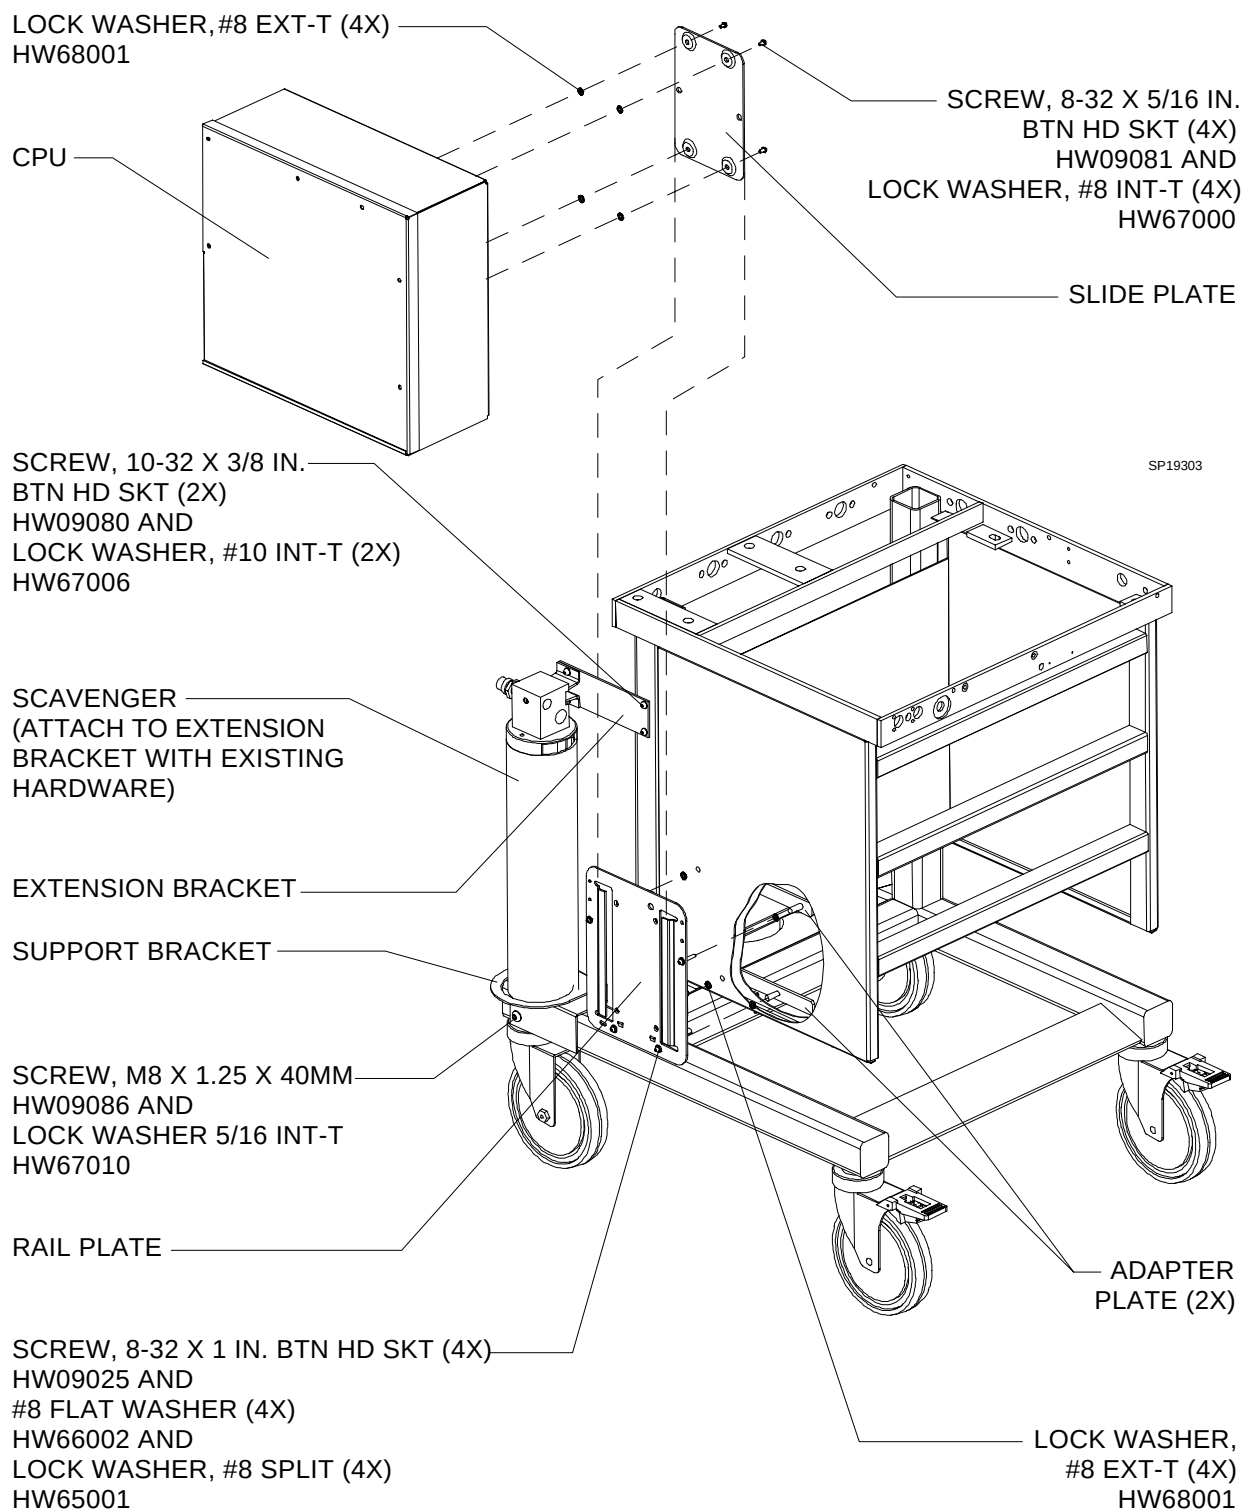

FIGURE 3. CPU, Scavenger Bracket and Rail Plate Installation
7. Install the slide plate on the CPU with the hardware arrangement shown in Figure 3.
8. Remove the scavenger from the machine and re-locate it using the extension bracket and support bracket as shown in Figure 3. Re-use the existing hardware to attach the scavenger to the extension bracket.
11. Assemble the rail plate to the cabinet, with the plate adapters inside the cabinet using the hardware and arrangement shown in Figure 3.